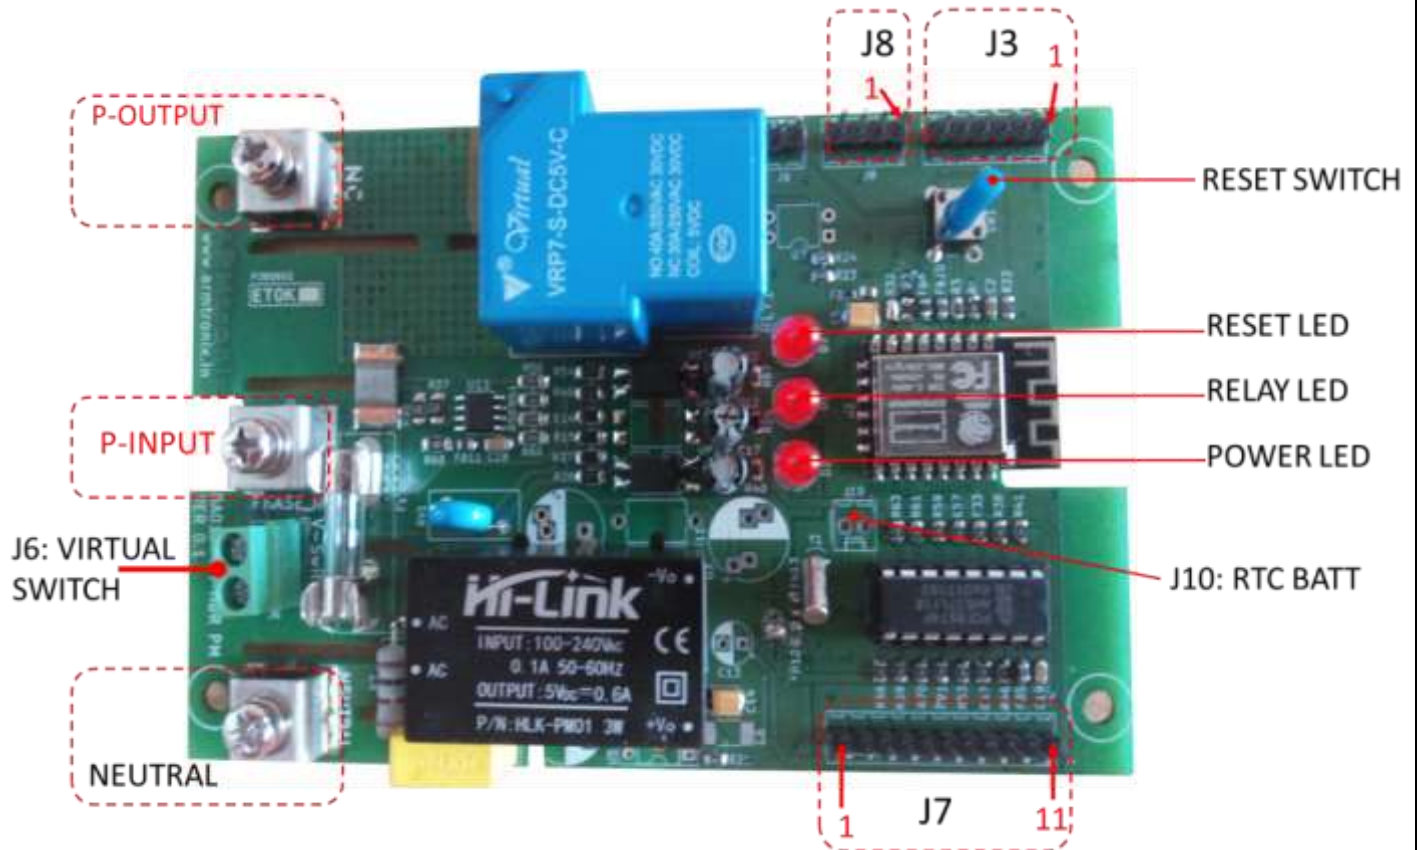

Figure 4: Header and Switch positions
1. Make an input AC phase and Neutral connection as shown in Figure 4.